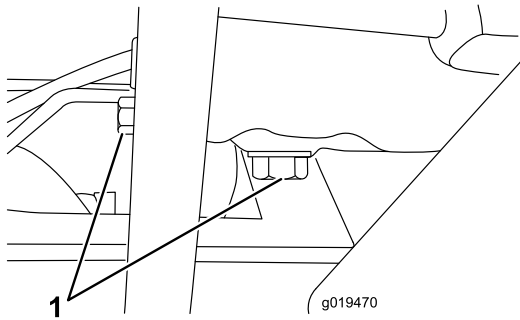

Figure 54
1. Remove drain plug (Figure 54) and let oil flow into drain pan. When oil stops, install drain plug.